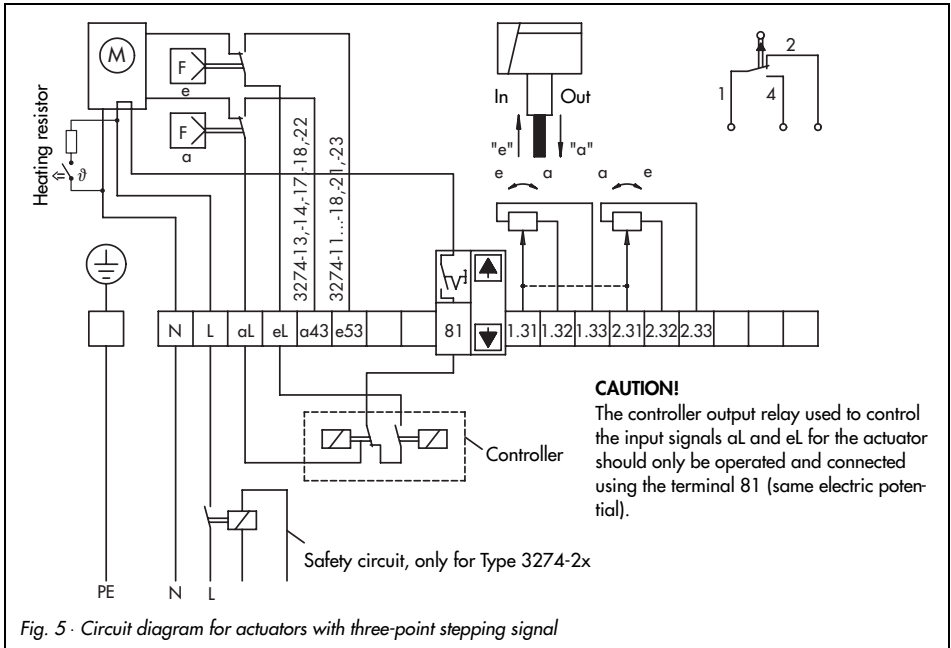

Fig. 5 · Circuit diagram for actuators with three-point stepping signal
- ▶ Remove the side case cover. Guide the wires through the cable glands on the case to the terminals and connect them (see Figs. 5 to 7 or the circuit diagram inside the case cover).
The board with the electronics section of the motor contains a clamp with a 5 x 20 mm glass-tube fuse which is used to protect the actuator and the contacts of the external controller when the actuator is wired as shown in Figs. 5 to 7.